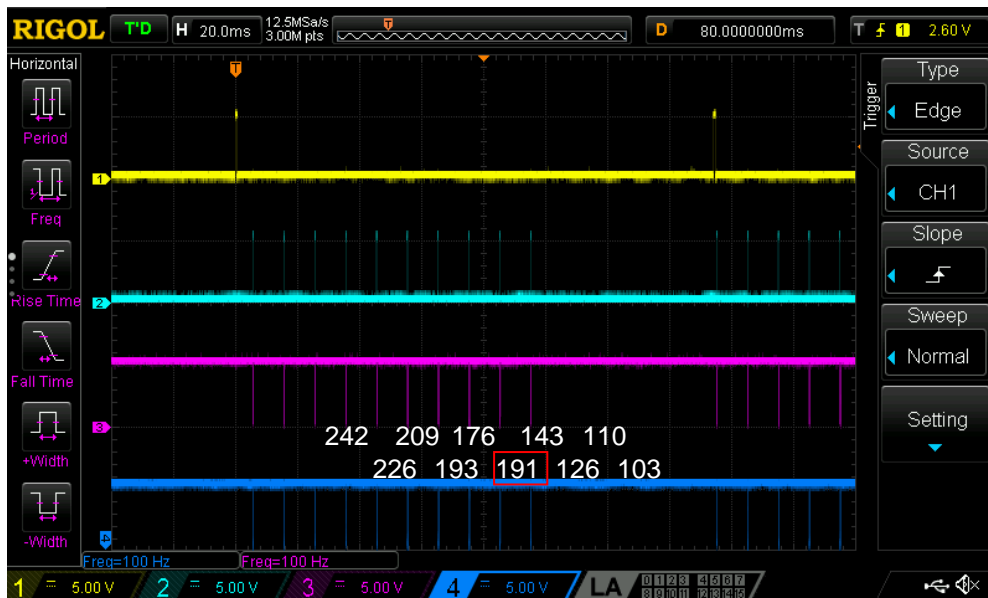

Figure 9
The example data capture in Figure 9 shows ten periodic I2C reads of CNT2/DLY2 configured to count down at about 16 clocks per read. The sixth read sample erroneously shows a value greater than that of the fifth. The seventh sample reads as if the previous I2C error never occurred - the difference from the fifth sample (176) to the seventh (143) is 33 clocks or 16 clocks + 17 clocks as expected.